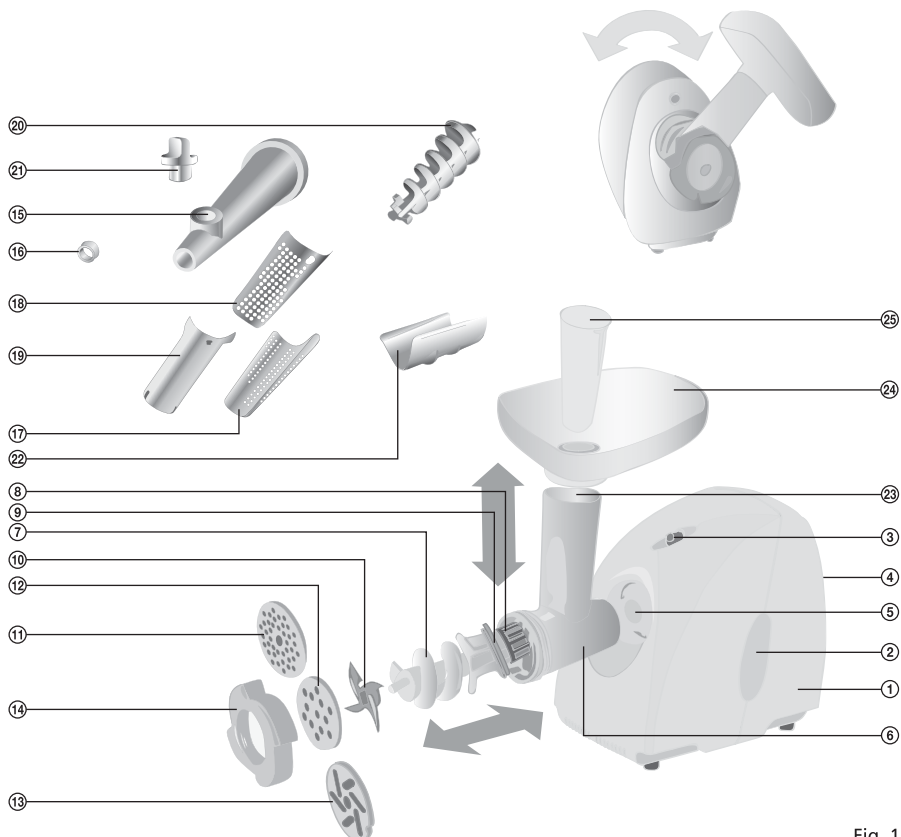

Fig. 1
According to fig. 1 place a plastic washer ⑨ and a safety cap ⑧ onto a worm shaft ⑦. When installing the plastic washer make sure the shaped side faced to safety cap. Place a cutting blade ⑩ onto the worm shaft ⑦ (cutting edge towards grinding disc). Put on one of the grinding disc you require. Assembled shaft insert into the grinder head ⑥ (make sure that the notch of the grinding disc fits onto the projections of the grinder head) and fix with the screw ring. The worse meat quality, the more tightened should be the screw ring. Due to increased load on the motor unit, do not tighten screw ring so firmly.